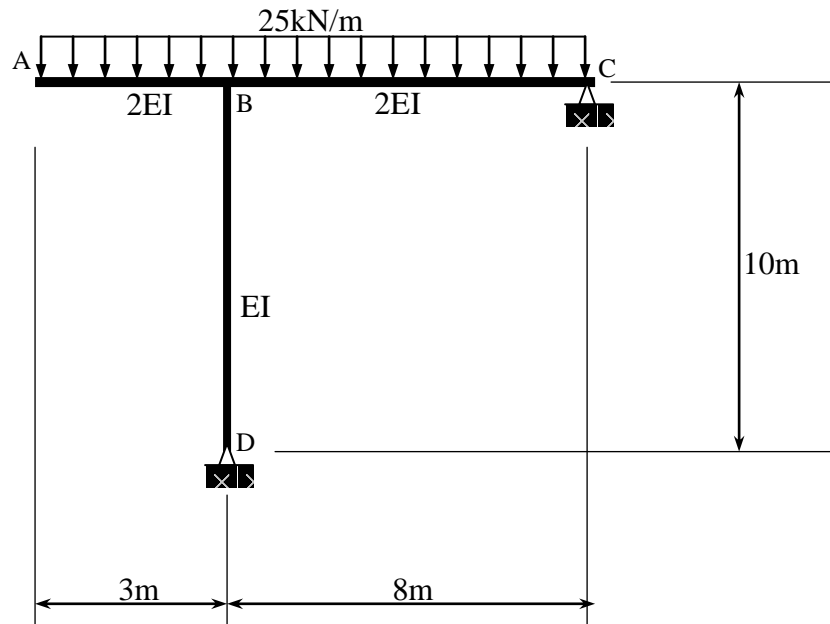

Figure 5
- (b) Figure 5 shows a rigid frame with pinned supports at C and D. A vertical uniformly distributed load of 25kN/m acts along beams AB and BC. Calculate all reactions by using the method of consistent deformation. Use horizontal reaction at support C as redundant.